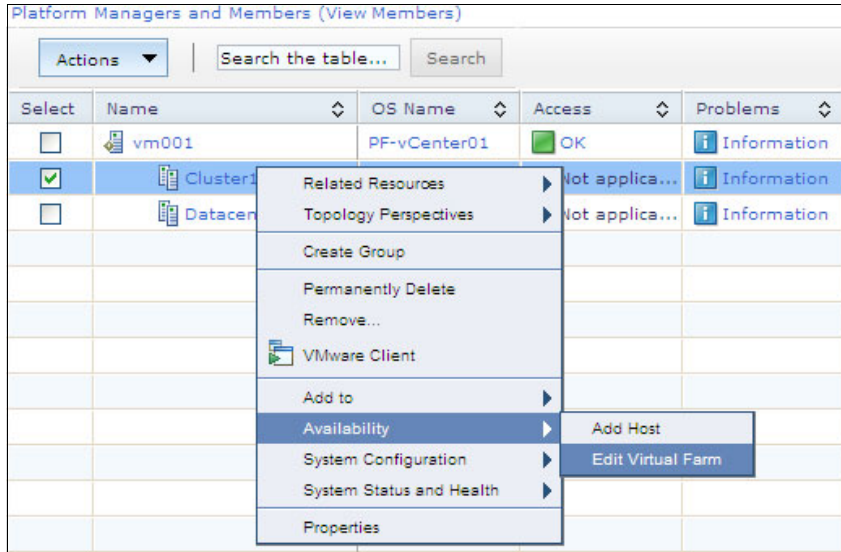

Figure 11-49 Edit Virtual Farm menu item in the Platform Managers and Members window
2. Right-click **Cluster1** and select **Availability** → **Edit Virtual Farm**, as shown in Figure 11-49.